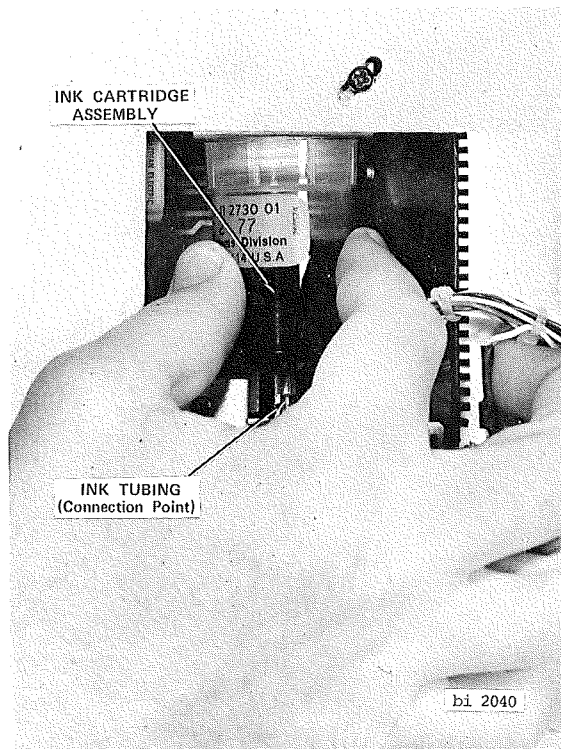

FIGURE 5-23 INK CARTRIDGE REPLACEMENT
Ink supply should be sufficient for one year under normal conditions. Cartridge is located behind left hand plate assembly, and visible thru hole in same plate assembly. See Figure 5-23. Procedure follows:
4. Unscrew ink cartridge from plunger assembly and discard. (Figure 5-23).
6. Install cartridge in plunger assembly and tighten firmly. (Figure 5-23).